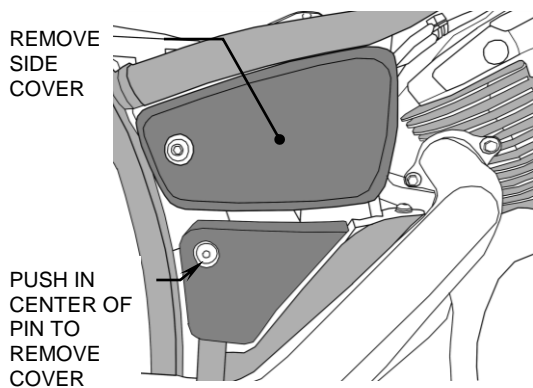

FIGURE 3
4. Remove the right side cover retained by buttonhead screw and triangular panel below it. Push inward on the center of the plastic peg fastener to remove it as the triangular plastic panel is pulled outward, see Figure 3.